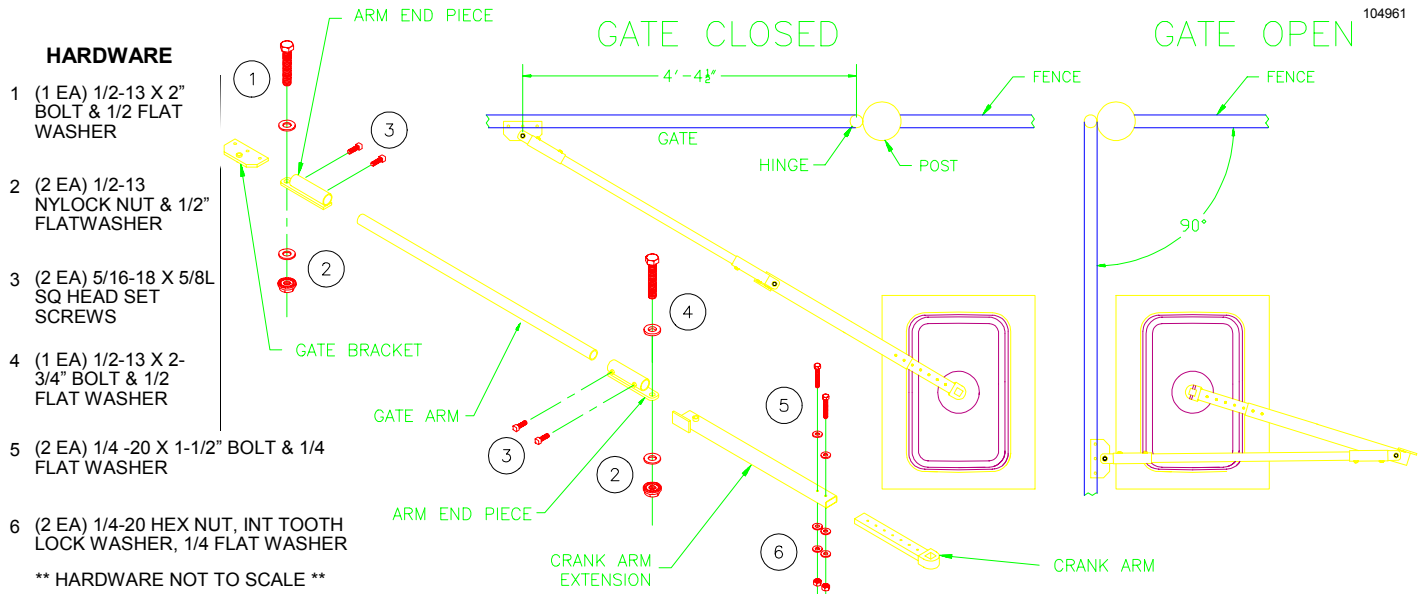
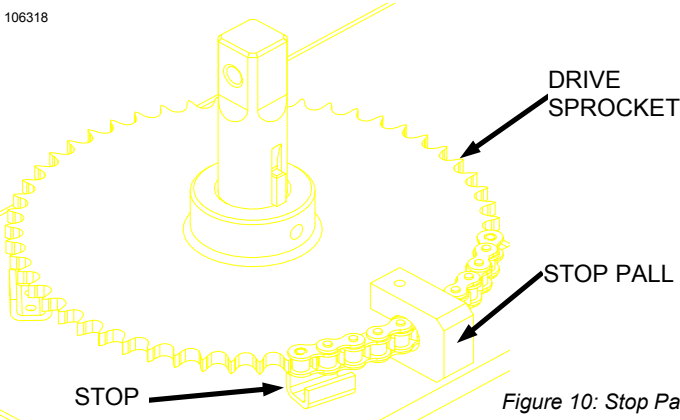

Figure 9: Arm Positions
Figure 10: Stop Pall
Temporarily locate the Gate Bracket on the Gate with C-clamps or by tack welding. Install the gate bracket to the gate so the gate arm will be level when connected to the HDSWG 1000. See Figure 9 for positioning of the Gate Bracket.
For the installation shown in Figure 9, attach the Crank Arm Extension to the Crank Arm with the (2) 1/4-20 x 1-1/2" long bolts provided. The overall length of the cranking arm is now 33 5/8" from the center of the Output Shaft to the center of the pivot at the "elbow." Note that the cranking arm is adjustable to (5) possible settings: 32-1/8", 30-5/8", 29-1/8", 27-5/8" and 26-1/8" long.
Install the Crank Arm and Extension on the HDSWG 1000 main shaft and make sure the Crank Arm swings freely from side to side. Connect the Gate Arm to the Crank Arm Extension and the Gate Bracket. With the Gate in the closed position, the "elbow" will be up against the closed position stop on the Crank Arm Extension. The Gate should be in the properly closed position. (See Figure 9.)
Loosen the Stop Pall on the large output drive sprocket located on the output shaft on the HDSWG 1000 MECHANICAL UNIT. (See Figure 10.) Move the Gate to the fully open, 90 degree position. The Arm extension should fold back over the arm as shown in Figure 9. If it doesn't, some adjustment of the gate bracket or operator position may be necessary. With the gate in the fully open position, adjust the stop pall on the sprocket against the stop on the HDSWG 1000 frame and tighten the set screw. Open and close the gate several times until you are satisfied that the arm position is correct. Finish welding or bolting the Gate Bracket to the Gate and remove the C-clamps.